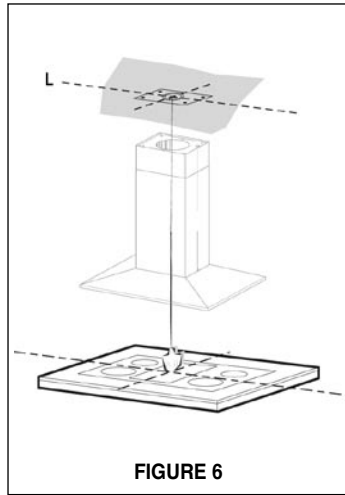

FIGURE 6
3. A template (L in FIGURE 6) for mounting the support is supplied in the carton with the support. Use this template to mark holes for support on the ceiling.
4. Determine and make necessary cuts for the ductwork. The duct opening is shown on the mounting template (L in FIGURE 6). Install ductwork before mounting the support.